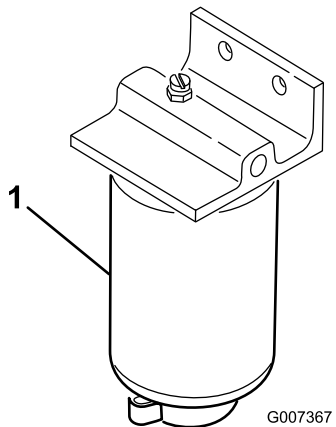

Figure 41
2. Clean the area where the filter canister mounts (Figure 41).
4. Open the filter drain plug and breather valve (Figure 41).